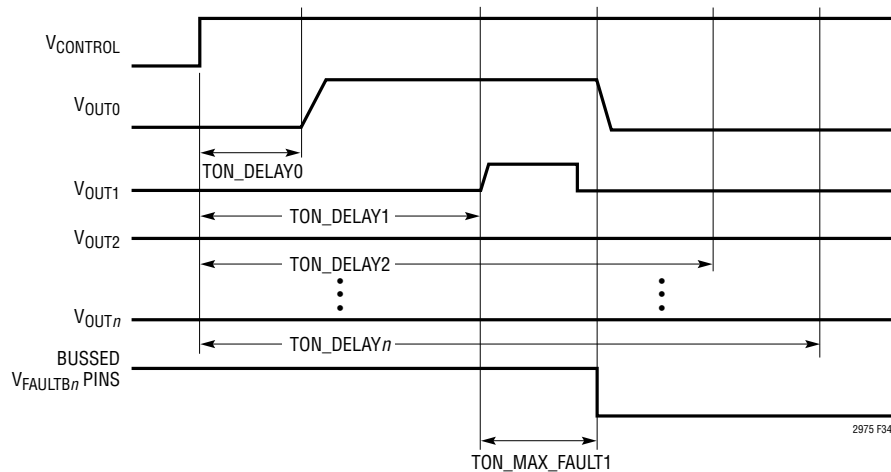

Figure 34. Aborted On-Sequence Due to Channel 1 Short
- The FAULTB lines can be connected together to create fault dependencies. Figure 33 shows a configuration where a fault on any FAULTB will pull all others low. This is useful for arrays where it is desired to abort a startup sequence in the event any channel does not come up (see Figure 34).